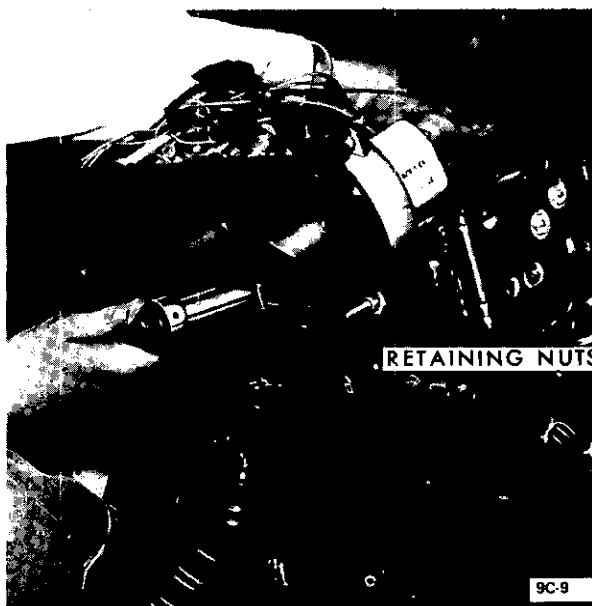

Figure 9C-10 Removing Radio Shaft Retaining Nuts
1. Install radio into instrument cluster and secure with retaining nuts. See Figure 9C-10.
2. Plug radio harness and lead-in cable into radio. See Figure 9C-8.
3. Install radio knobs and carefully push cluster back into instrument panel housing, making sure electrical wires, etc., are not pinched. See Figure 9C-7.